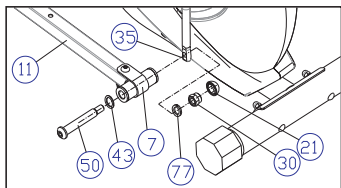

Figure 7
Pass the pedal shaft (50) on the wave elastic washer (43) through the foot tube rear clamp weldment (7), then screw the pedal shaft (50) into a section of crank (35), and set the pedal shaft. Tighten it and use the spring washer ϕ 8 (77), lock the lock nut (30), and then clamp the nut cap (21). (As shown in Figure 7)